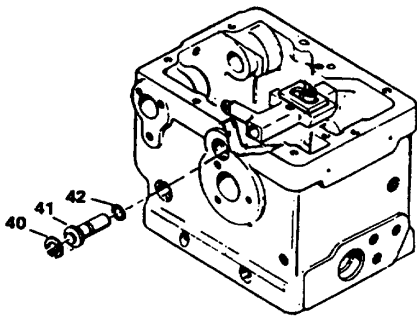

Figure 12-28. Speed Droop Lever Assembly
- (27) Lubricate packings (42, figure 12-28) and place on speed pivot pins (41). Place speed droop-lever assembly in the case in line with hole above terminal shaft (46). Insert pivot pins (41) on both sides of case through holes into speed droop lever. Secure pivot pins with retaining rings (40).